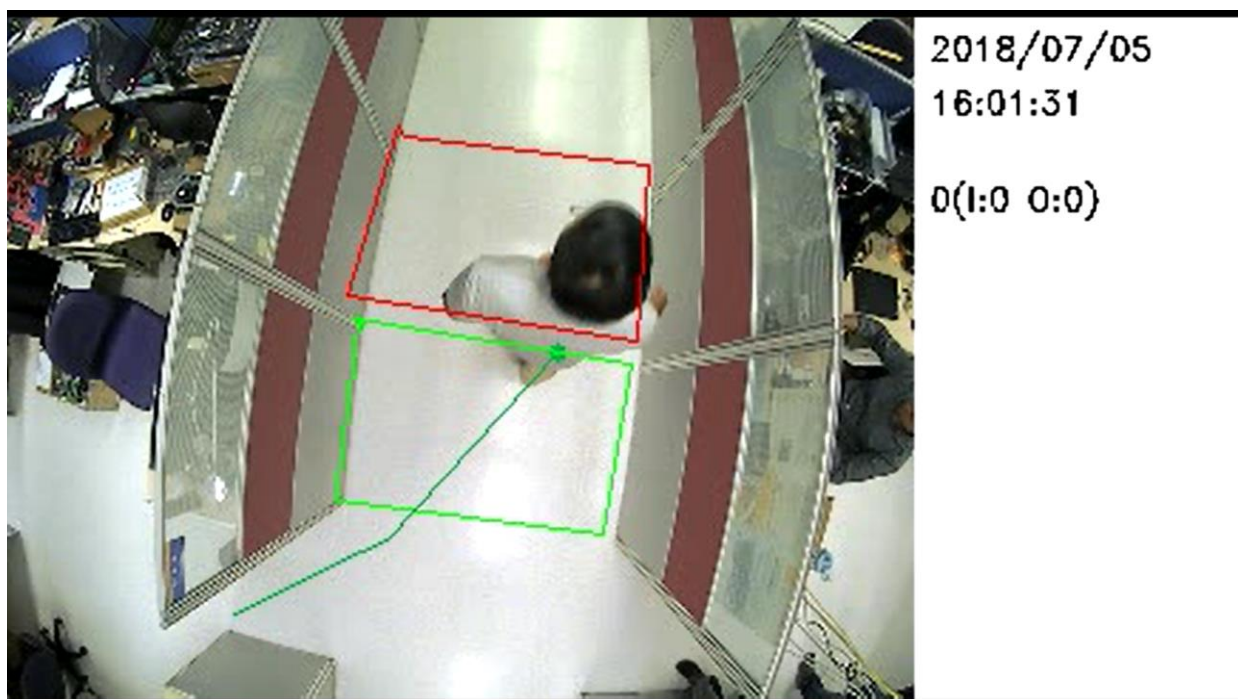

Figure-34
(3) The object enters in the red area/enter area (Figure-34)